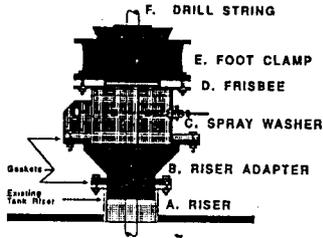

Figure 17) Riser Assembly.
8.1.2 ASSEMBLE and INSTALL the riser adapter, gaskets, drill rod washer, wiper seal, and foot clamp onto the simulated tank riser as depicted in Figure 17 below.